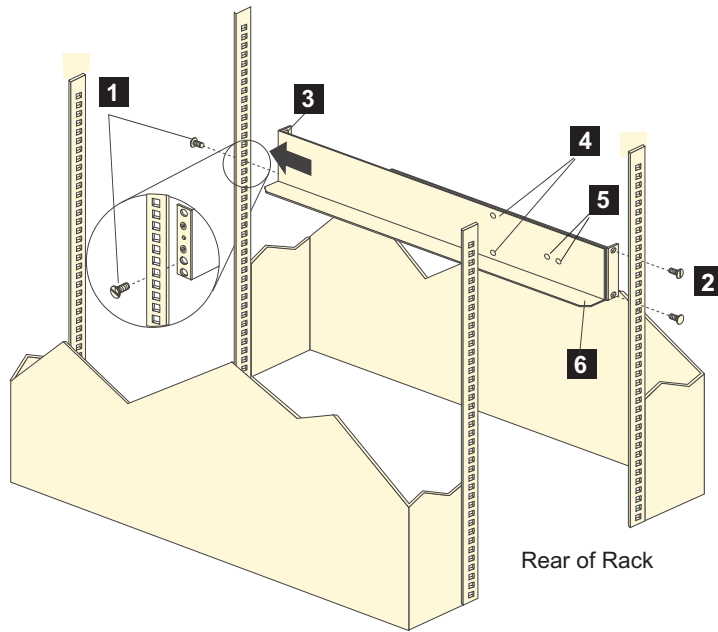

Figure 13. Installing the support rails
Note: Refer to Figure 13 on page 28 while performing these steps.
Note: The support rails are not marked as Left or Right. However, each rail can be correctly mounted on only one side of the rack cabinet. The rails should be mounted with the alignment pins at the back of the rack. Figure 13 on page 28 shows the installation of the left support rail.
2. Remove the four screws from the rails (two screws in each rail). See **4** in Figure 13 on page 28. If you do not remove these screws, the storage expansion enclosure will not fit securely.